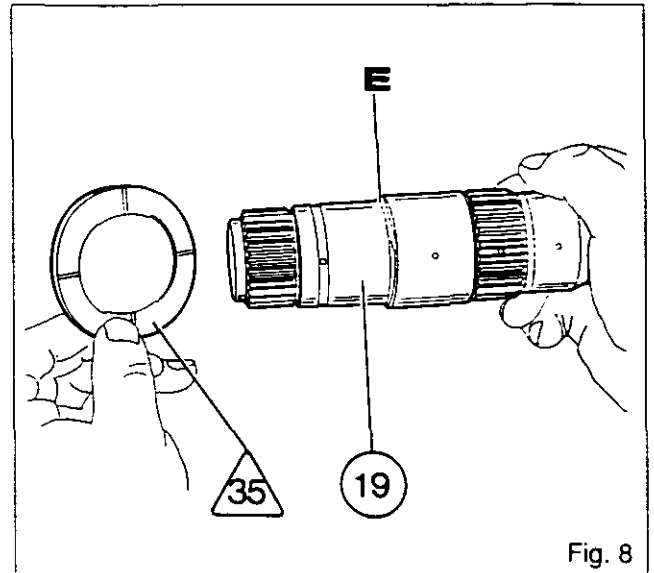

Fig. 8
31. Check that oilways and their openings are not blocked in secondary shaft (19), shaft (13) and housing (26).
33. Check the clearance between the synchroniser brakes (3) and (21) and the end rings (4) and (22).
34. Fit washer /35\ to shaft (19) (lubrication grooves facing towards shoulder E) (Fig.8).